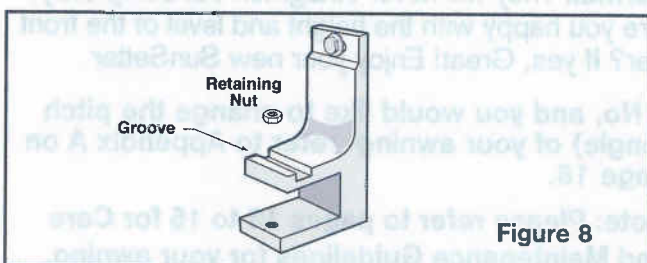

Figure 8
17. Insert the retaining nut into the special groove in each bracket - see figure 8.